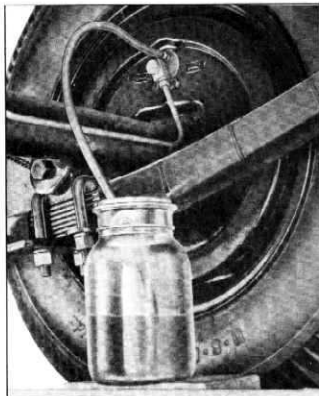

Fig. 7—Bleeding Brake System at Wheel Cylinder
3. Remove bleeder valve screw and screw bleeder hose into bleeder valve, placing other end of hose in a container having sufficient fluid to cover end of hose (fig. 7).